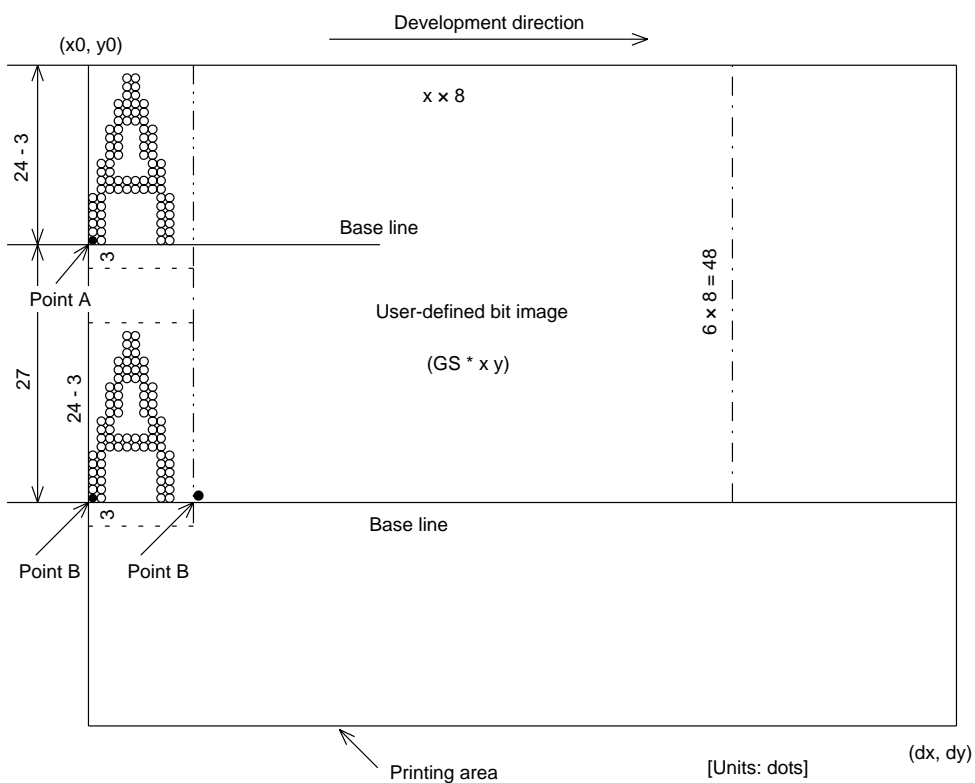

Figure 3.12.4 Downloaded Bit Image Developing Position
- 4) The default value of the line spacing is set to 1/6 inch and corresponds to 30 dots in the vertical direction. If print data for the next line contains extended characters that are higher than double-height characters, bit images taking up two or more lines, or bar codes higher than normal characters, the amount of line feeding may be insufficient, resulting in overlapping of the characters' higher-order dots with the previous line. To avoid this, increase the amount of line spacing. The line spacing in Figure 3.12.4 requires 27 dots (54 pitch) or more.